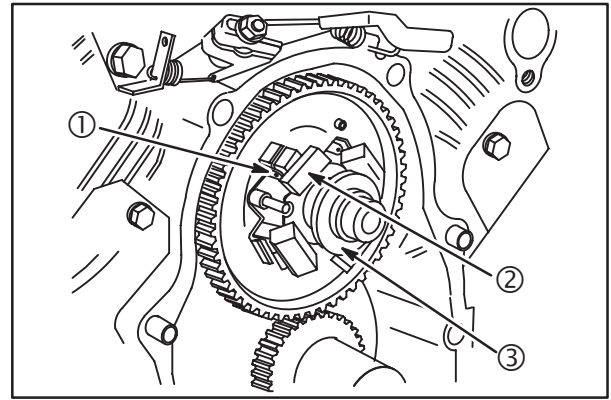

Fig. 7
1. Governor spool (3) must move freely on PTO journal of camshaft, Fig. 7. Replace if spool sticks or bearing is damaged.
2. Flyweights (2) must move freely on hinge pins (1). Replace camshaft if hinge pins are loose or governor spool does not move freely on journal.